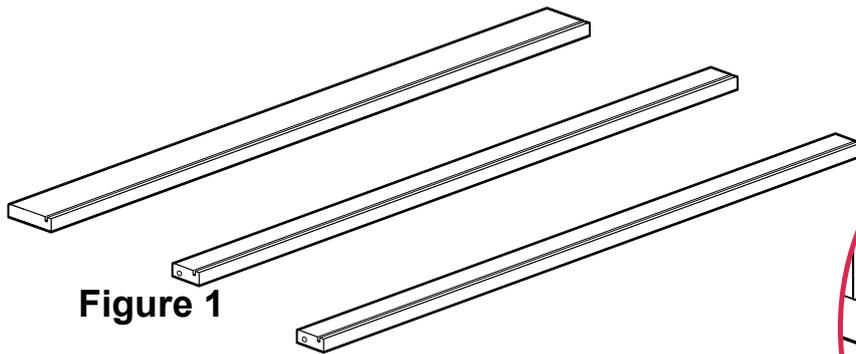

Figure 1
- Lay one side rail(top) and two side rails(shelf) on a carpeted floor with grooves facing up, as per **Figure 1**.